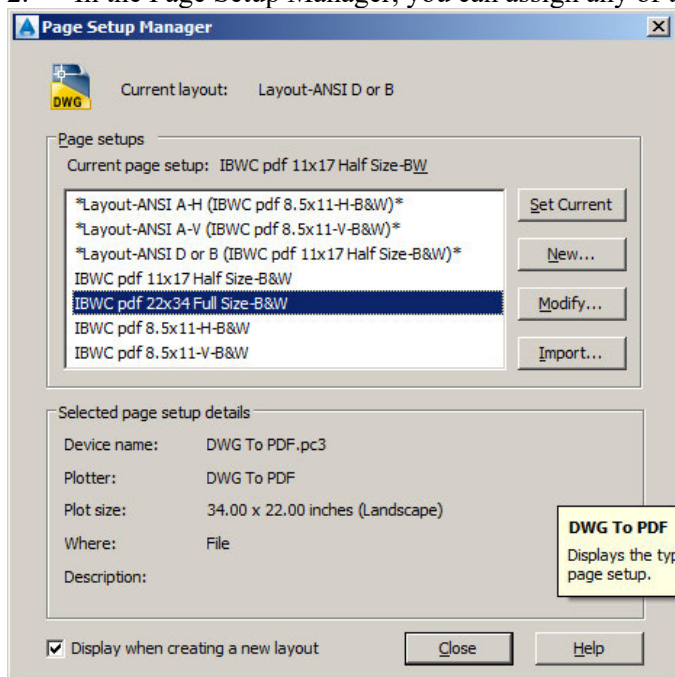

Figure 11-Page Setup Manager
- 1. To open the Page Setup Manager, click on any layout tab. Next, right click on the layout tab and choose "Page Setup Manager..." Figure 11 will open.